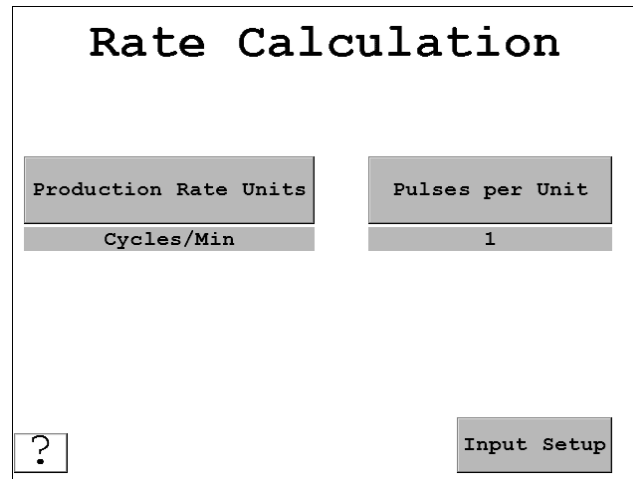

Figure 3-8. Rate Calculation Screen
7. Press *Rate Calculation*. The Rate Calculation screen should appear (Figure 3-8, below).